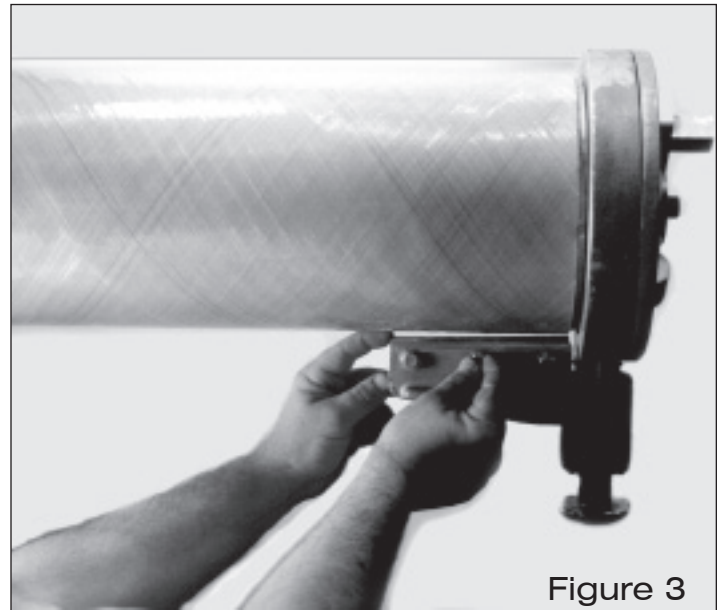

Figure 3
4. Mount the blade holder with the three bolts with washers, but do not tighten, yet. (See Fig. 3.)